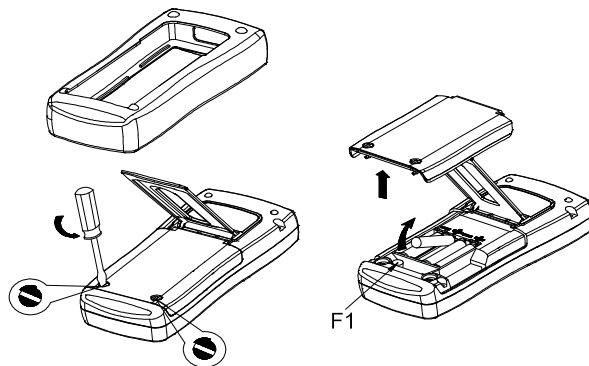

Figure 16 Replacing batteries and fuses
**Step 2:** Remove the protector as shown in Figure 16. With a standard blade hand screwdriver, turn each battery door screw a quarter counterclockwise to remove the battery door.